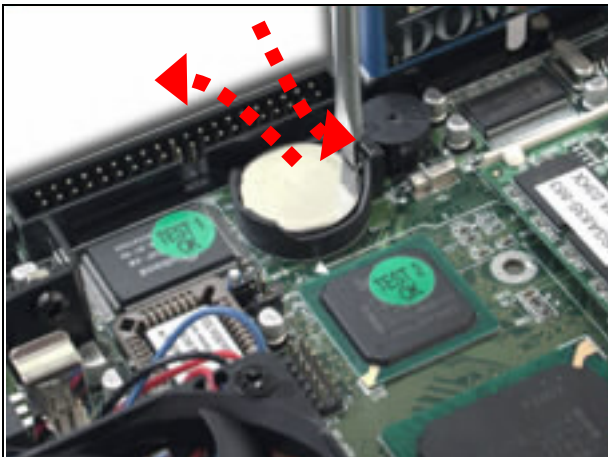

Fig. 2-20 Eject the battery
1. Press the metal clip back to eject the button battery (*Fig. 2-20*).